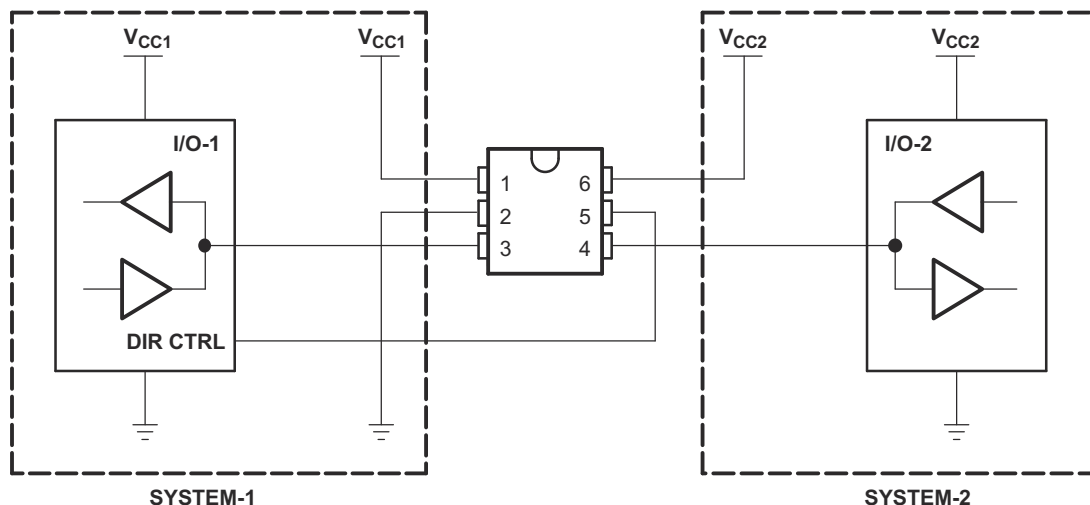

Figure 9-3. Bidirectional Logic Level-Shifting Application Diagram
Figure 9-3 shows the SN74AVCH1T45 being used in a bidirectional logic level-shifting application. Take precautions to avoid bus contention between SYSTEM-1 and SYSTEM-2 when changing directions because the SN74AVCH1T45 does not have an output-enable (OE) pin.